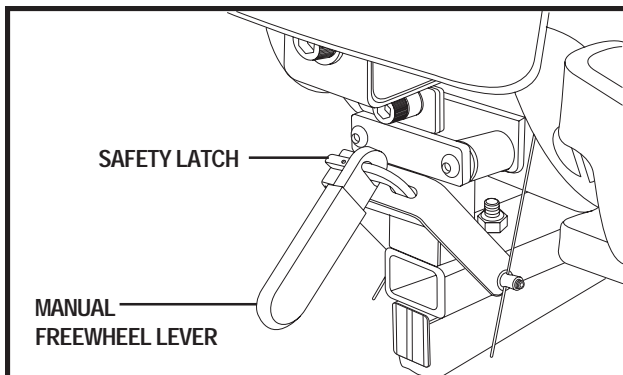

Figure 10. Drive Disengaged (Single Lever)
1. Flip up the safety latch and pull the manual freewheel lever up to disengage the drive motors. See figure 10.